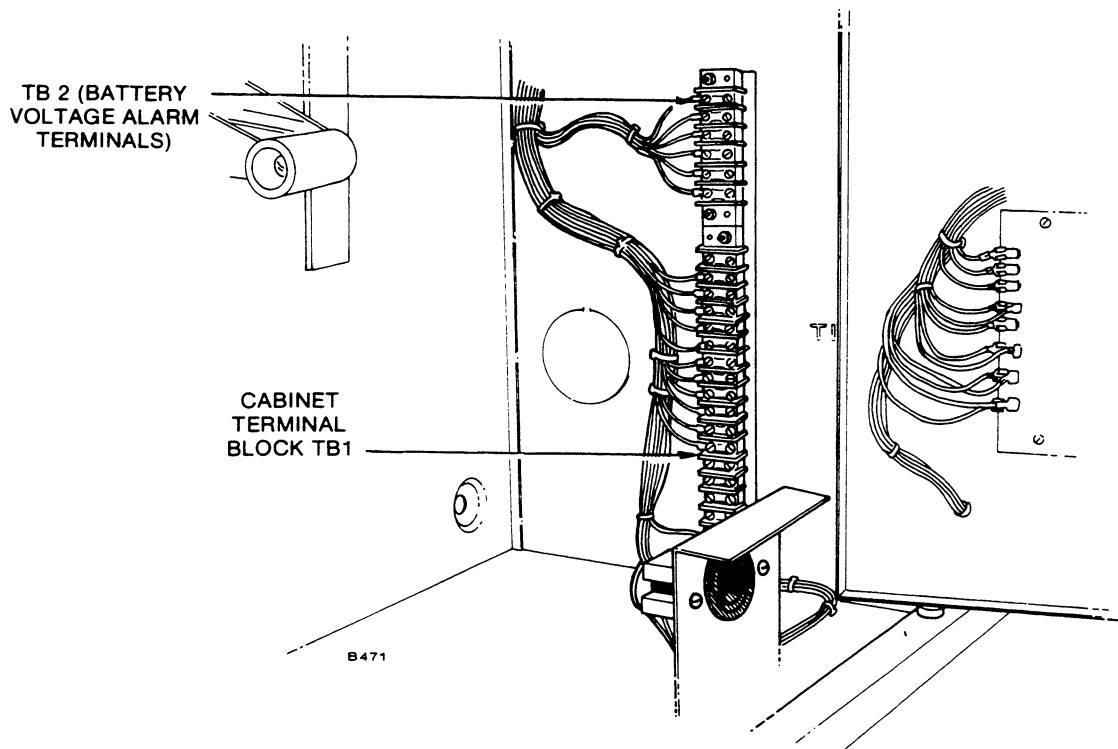

FIGURE 5. CABINET TERMINAL BLOCKS TB1 and TB2
- a. Remove terminal jumper located between terminals 4 and 5 of terminal strip TB1 (Figure 5).
6. Transfer Inhibit Circuit: To inhibit transfer of the automatic transfer switch by another automatic transfer switch (for paralleling systems, priority selection systems, etc.), remove the jumper between TB1-6 and TB1-7. Connect the wire leads from the external equipment to these two terminals. See Figure 5.
7. Diesel Preheat Time Delay (if used): If this delay is used for operation of glow plugs on three-wire start generator sets, connect a wire from terminal TB1-H in the automatic transfer switch (three-wire starting only) to terminal "H" on the generator set. Use number 16 wire for distances up to 100 feet or 31 metres (maximum of 0.5 ohm per line). See Figure 5.
8. Onan Annunciator Connector for Overcrank (if used): Connect a wire from terminal TB1-53 in the automatic transfer switch (three-wire starting only) to terminal 53 on the Onan annunciator panel (Figure 5). Use number 16 wire for dis-
9. Battery Voltage Alarm Circuit (if equipped): For automatic transfer switches with a high battery voltage ("HI BAT VOLT") and low battery voltage ("LO BAT VOLT") lamp on the meter-lamp panel, there is a six-place terminal block TB2 for external circuit connections. The terminal block is located just above the TB1 terminal block used for remote connections (Figure 5). Connect the wire leads from an external signal or alarm to terminal block TB2 as follows:
11. Connect the low voltage DC control wires from the automatic transfer switch terminal block TB1 to the generator set (Figure 5). Two-wire starting models use three terminals, B+, ground (GND) and remote (RMT). Three-wire starting models use four terminals, B+, 1, 2, and 3. Use number 16 wire up to 100 feet or 31 metres (maximum of 0.5 ohm per line).